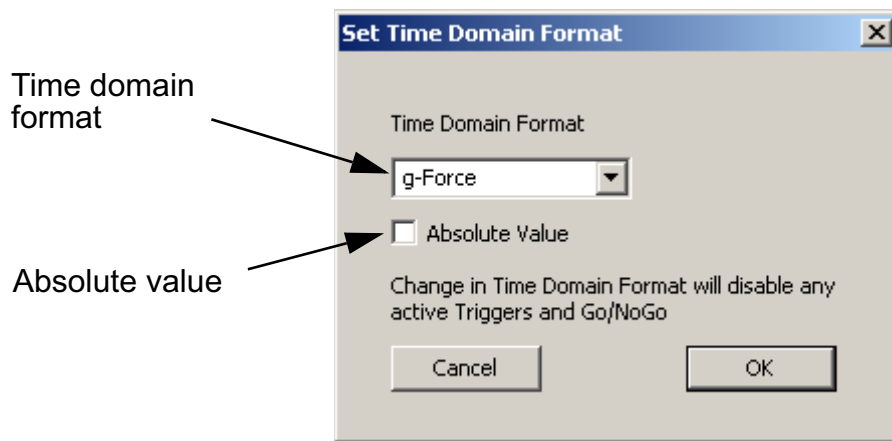

Figure 3.21: Set Time Domain Format dialog
VibeView gives you three options for setting the time domain format for traces (see Figure 3.21 on page 3.31):
1. Choose the menu item **Settings > Set Time Domain Format**. The Set Time Domain Format dialog is displayed (see Figure 3.21).